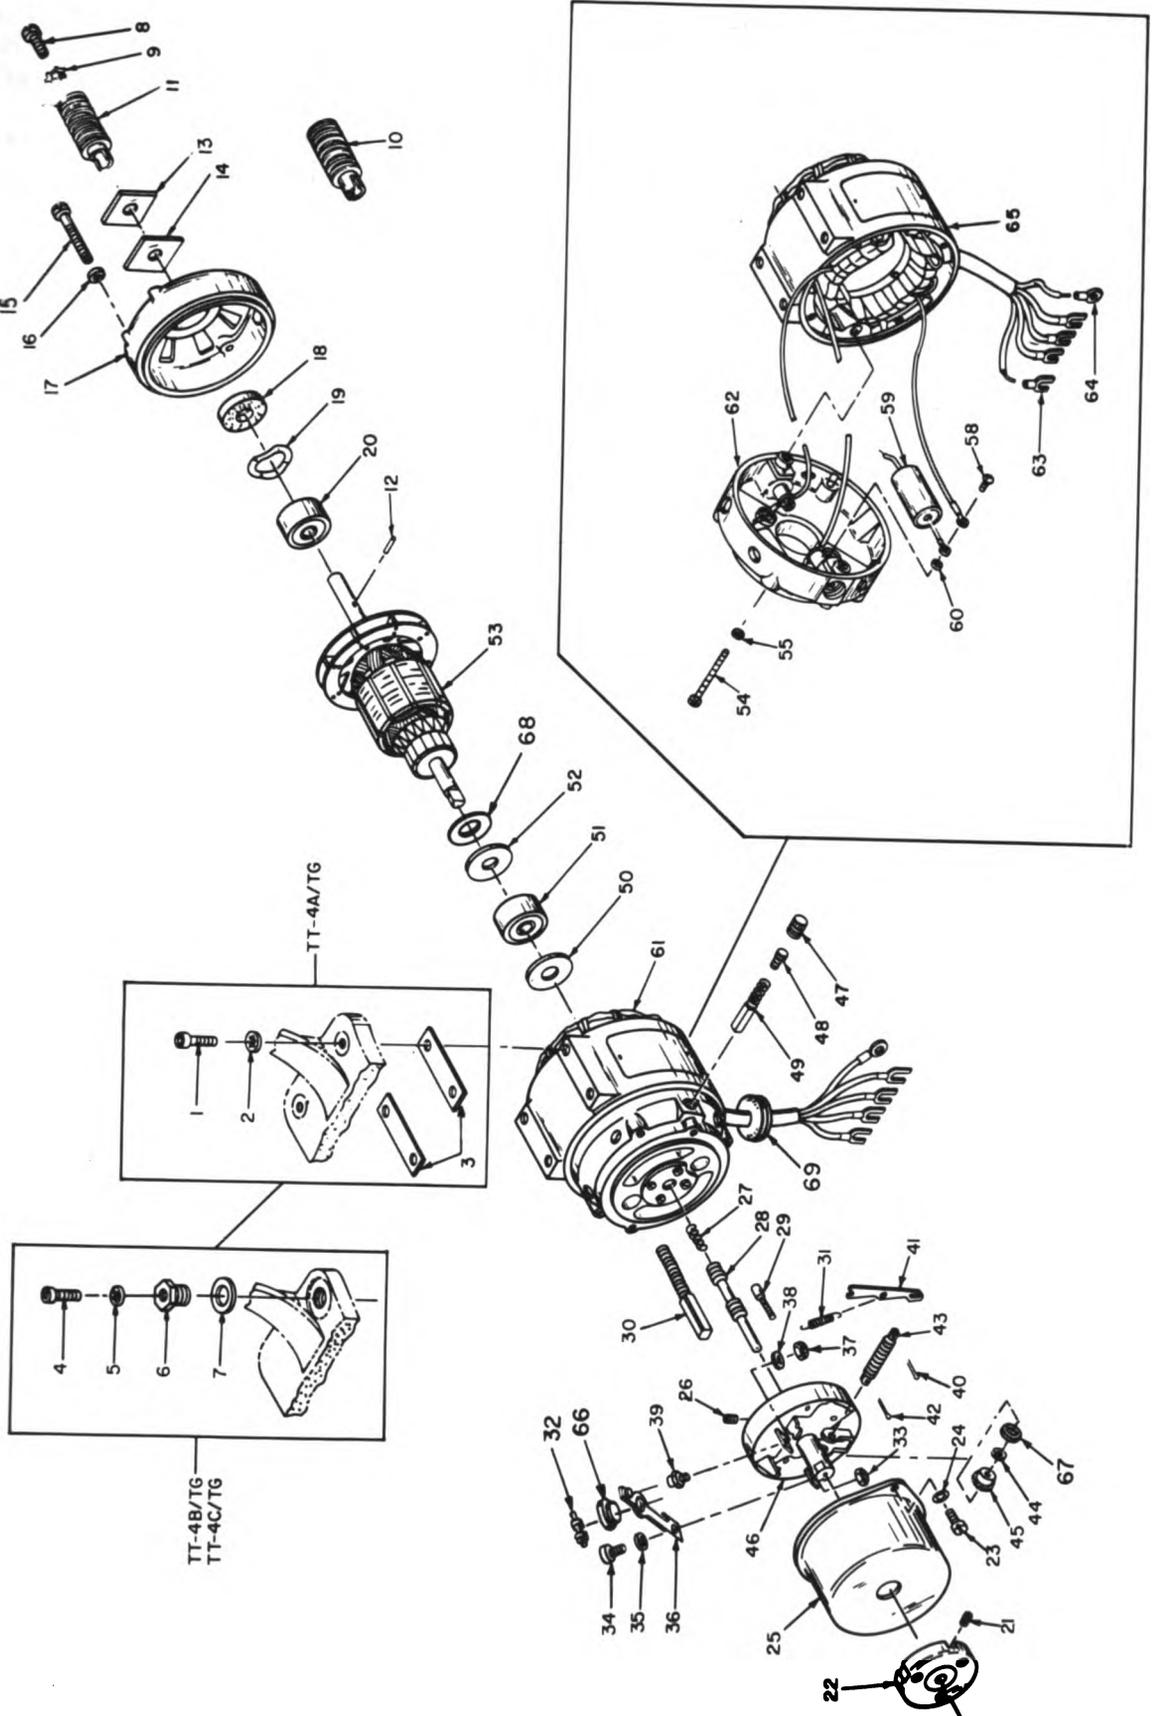

Figure 3-23. Motor and governor, exploded view (TT-4 (*)/TG and TT-638(*)/TG).
(fig. 3-23)
(1) Remove the motor (para 3-26c).
(2) On the TT-4B/TG, TT-4C/TG, TT-698A/TG and TT-698B/TG, remove the three sleeves (6, fig. 3-23) and lockwashers from the teletypewriter frame.
(3) On the TT-4A/TG and TT-698/TG, remove the machine screw and lockwasher that hold the worm gear on the shaft of the armature; remove the worm gear (10 or 11).
(4) On the TT-4B/TG, TT-4C/TG, TT-698A/TG and TT-698B/TG, remove the machine screw and lockwasher that hold the worm gear on the shaft of the armature; remove the worm gear.
(5) Remove the pin (12) that holds the grease seals on the armature; remove the grease seals (13 and 14).
(6) Remove the four machine screws and lockwashers that hold the gear end bell (17) on the motor housing (61); remove the gear end bell, thrust pad (18), thrust washer, and ball bearing (20).
(7) Remove the setscrew that holds the governor target (22) to the shaft of the governor base; remove the governor target.
(8) Remove the two machine screws and lockwashers that hold the governor cover (25) to the motor housing; remove the governor cover.
(9) Remove the two setscrews that hold the governor base (46) to the shaft of the armature (53); remove the assembled governor.
(10) Remove the governor-worm spring (27), governor worm (28), and contact brush (29) from the governor.
(11) Remove the two contact brushes (29 or 30) from the motor housing.
(12) Remove the two brush shields (47) and brush caps (48) that hold the brushes (49) in the motor housing; remove the brushes.
KEY to fig. 3-23:
(1) Reassembly the motor as indicated in figure 3-23; the sequence for assembling the parts is the reverse of the disassembly sequence (a and b above).
(2) Replace the motor (para 3-26d).
(3) Adjust the motor (para 3-262 through 3-266).
3-44. Disassembly and Reassembly of Governor (TT-4(*)/ TG and TT-698(*)/ TG) (fig. 3-23)
(1) Remove the governor from the motor (para 3-42*a*).
(2) Remove the governor spring (31, fig. 3-23) from the governor adjustment lever (41) and from the grooved pin (32); remove the grooved pin.
(3) Remove the self-locking hexagonal nut (33), machine screw (34), and lockwasher that hold the contact (36) to the governor base; remove the contact.
(4) Remove the plain hexagonal nut (37) and lockwasher that hold the contact (39) to the governor base; remove the contact.
(5) Remove the cotter pin (40) that holds the governor adjustment lever (41) to the governor adjustment screw (43); remove the governor adjustment lever.
(6) Remove the cotter pin (42) that holds the governor adjustment screw in the governor base; remove the governor adjustment screw and catch the flat washer and speed adjustment gear (45) as they fall.
(1) Reassemble the governor as indicated in figure 3-23; the sequence for assembling the parts is the reverse of the disassembly sequence.
(2) Replace the governor on the motor by reversing the procedure described in paragraph 3-42*a*.
(3) Replace the motor (para 3-26 *d*).
(4) Adjust the motor (para 3-262 through 3-266).